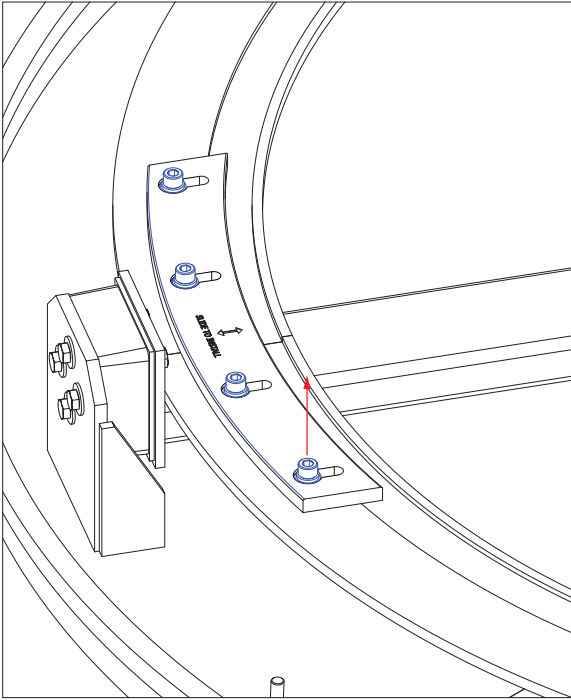
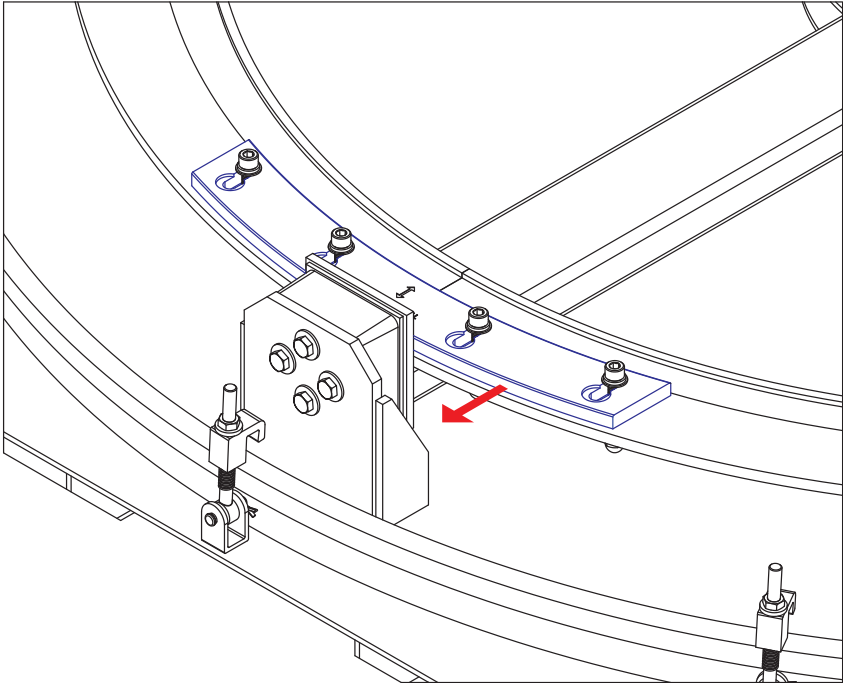
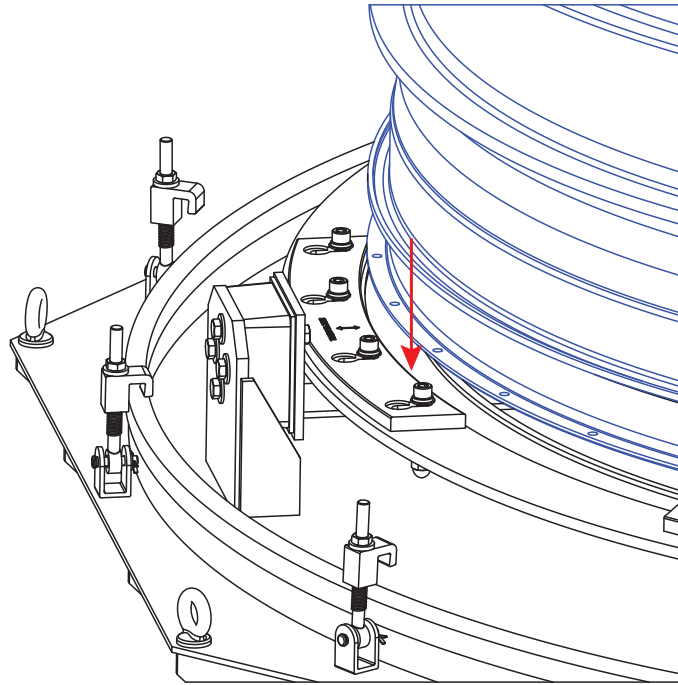

Figure 5.3-1 Screw & Clamp
Figure 5.3-2 Clamp Slide
Figure 5.3-3 Fan & Booster Positioning
1. Losen four (4) socket head screws with washer and lock washer located on each of the six (6) clamps on the fan & booster support ring (Figure 5.3-1) slide clamp outward (Figure 5.3-2). Using overhead hoist center and align fan & booster with base support ring groove (Figure 5.3-3).
- 2) losen four (4) socket head screws with washer and lock washer (Figure 5.3-1) located on each of the six (6) clamps on the fan & booster support ring slide clamps outward (Figure 5.3-2).